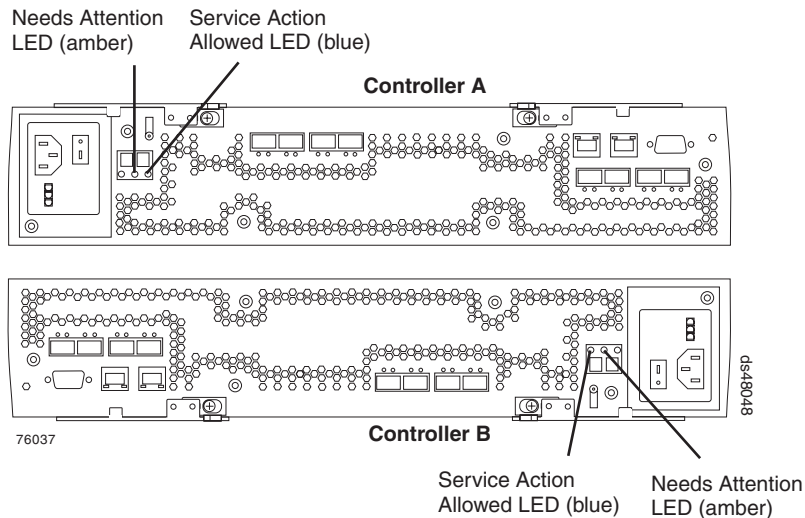

Figure 83. RAID controller Needs Attention and Service Action Allowed LEDs
2. Locate the failed controller by checking the Needs Attention status LEDs on the controllers in the storage subsystem. (Figure 83 on page 138 shows the location of the Needs Attention LED on the back of a controller.)
3. Is the Service Action Allowed status LED turned on? (Figure 83 shows the location of the Service Action Allowed status LED on the back of a controller.)